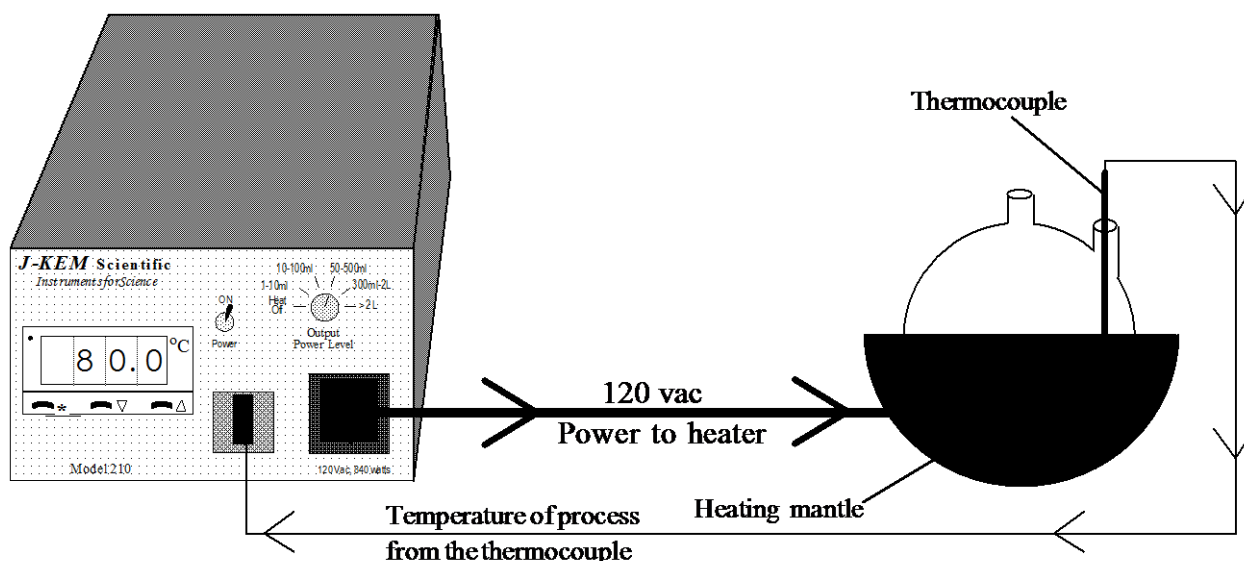

Figure 2
3.7 Do's and Don'ts When Using Your Controller. The controller, heater and thermocouple form a closed loop feedback system (see Fig. 2 in Section 4.1). When the controller is connected to a heater, the feedback loop should not be broken at any point.